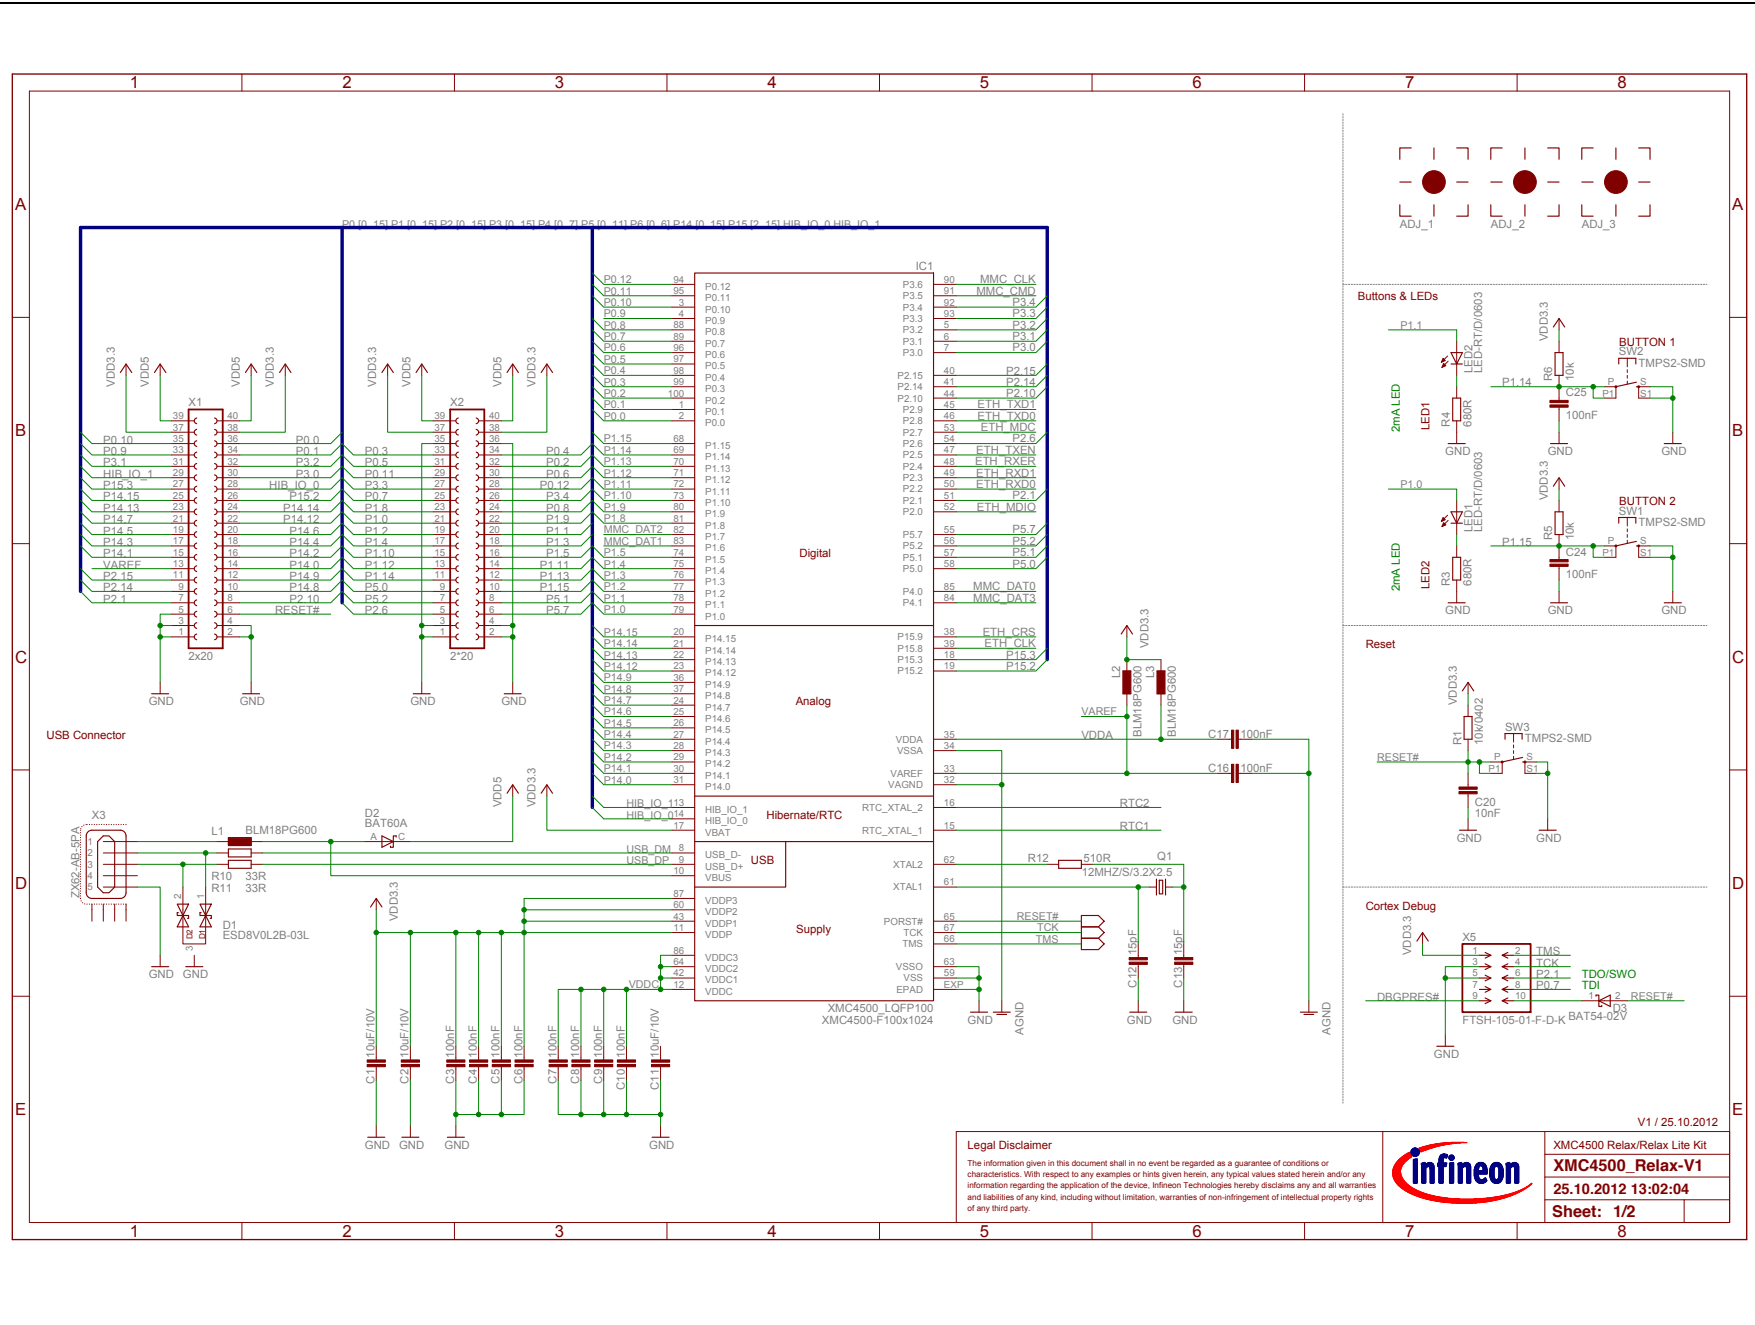

Figure 7 CPU, Pin Headers, Buttons, LEDs, Reset
- Figure 7: CPU, Pin Headers, Buttons, LEDs, Reset